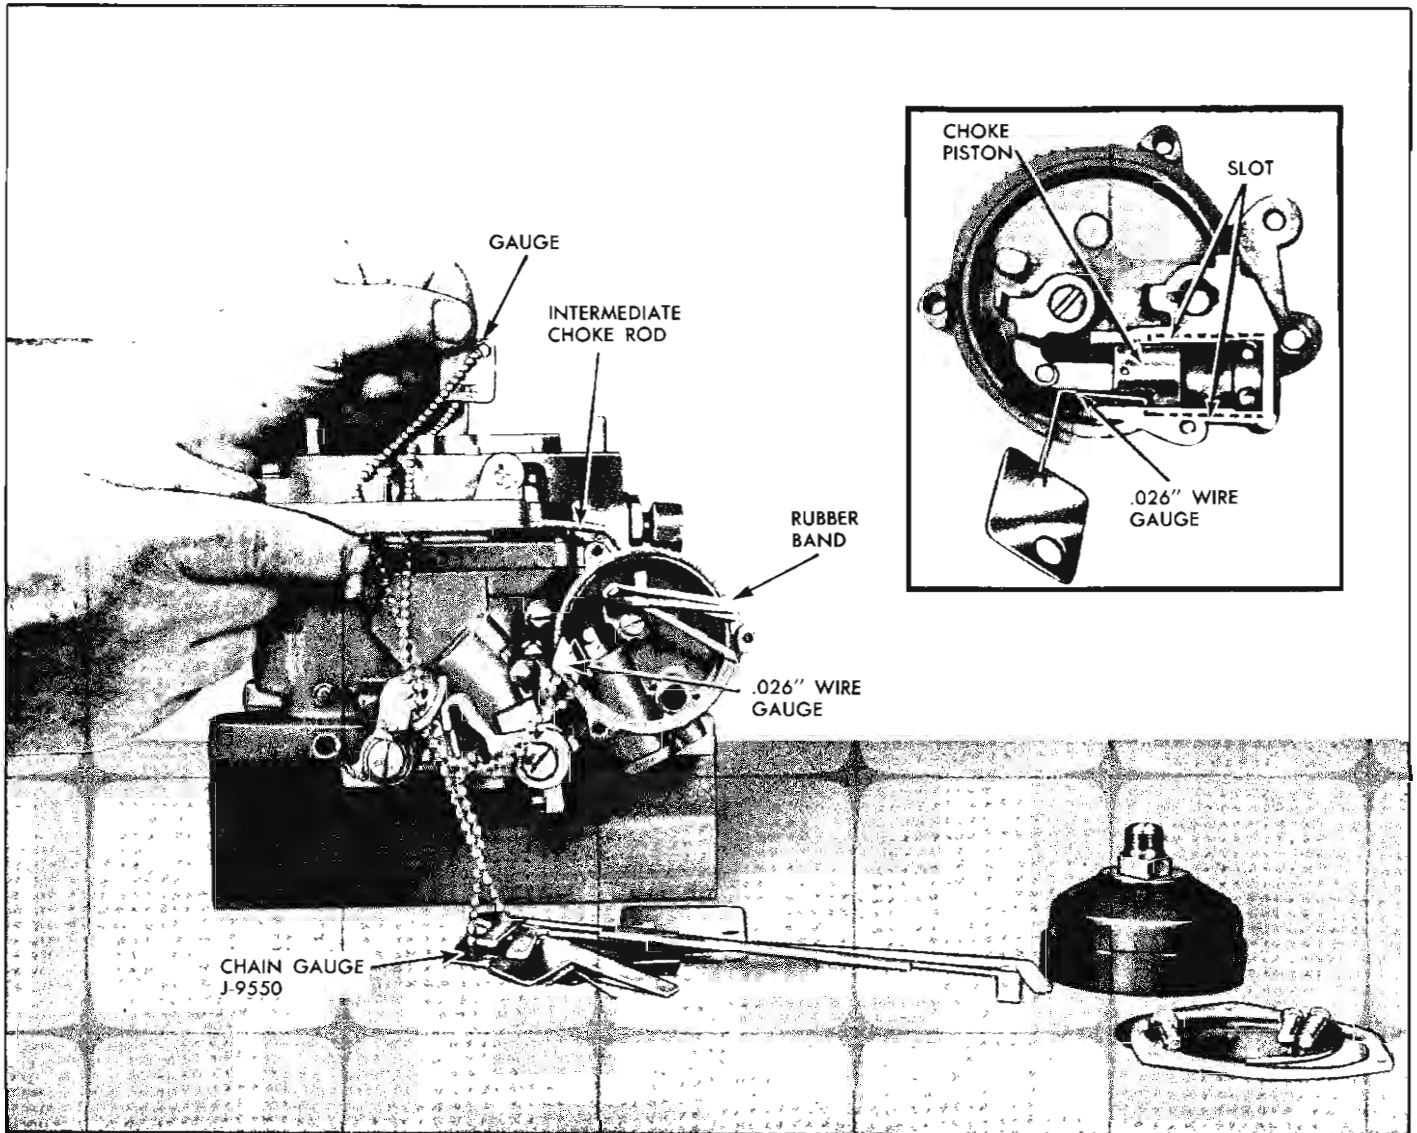

Fig. 18—Intermediate Choke Rod Adjustment
3. Open choke valve and insert .026" wire gauge, J-9550 between bottom of slot in piston and top of slot in choke piston housing (fig. 18). Close choke piston against this gauge (using a rubber band doubled will keep tension of piston against wire gauge leaving one hand free for adjustment while gauging choke valve, and check clearance between top of choke valve and web of air horn casting, using J-9550 wire gauge .210" for 409 carburetor and .0825" for 327 carburetor.